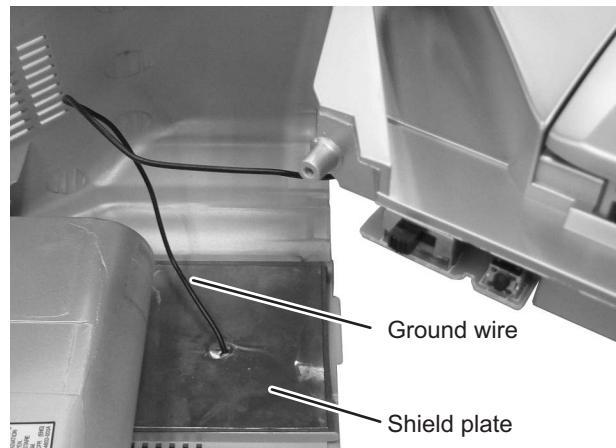

Fig.4
- (5) Remove the solder the ground wire from Tuner board soldered to shield plate. (See Fig.4)